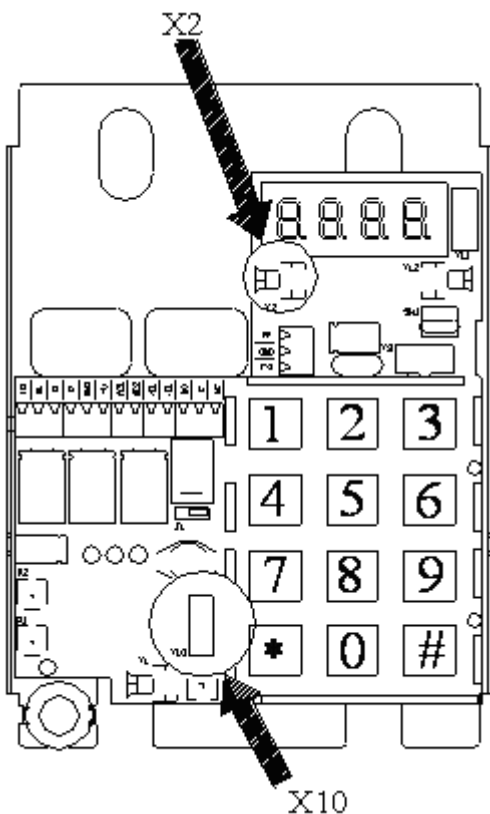

Fig. 7 (PCB assembly kit).
3. Disconnect terminal **X2** (speaker), **X10** (Dallas key reader), **X12** (backlight information panel) **Fig. 7**.
13. Connect terminal **X2** (speaker), **X10** (Dallas key reader) and **X12** (backlight information panel). **Fig. 7**.